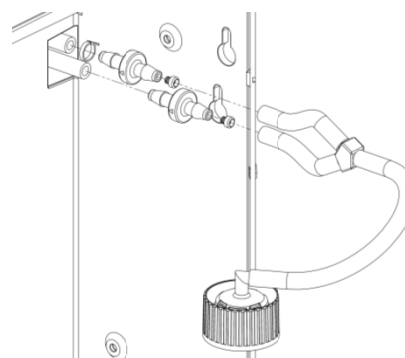

Figure 3
- For SafeLink cap and tubing: secure the tubing over the exposed check valve barb (*Figure 3*)